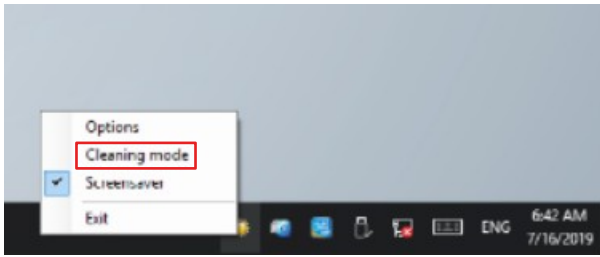

Fig. 24: CP27xx_Select "Cleaning Mode"
3. Select the "Cleaning Mode" (see Fig. 24).